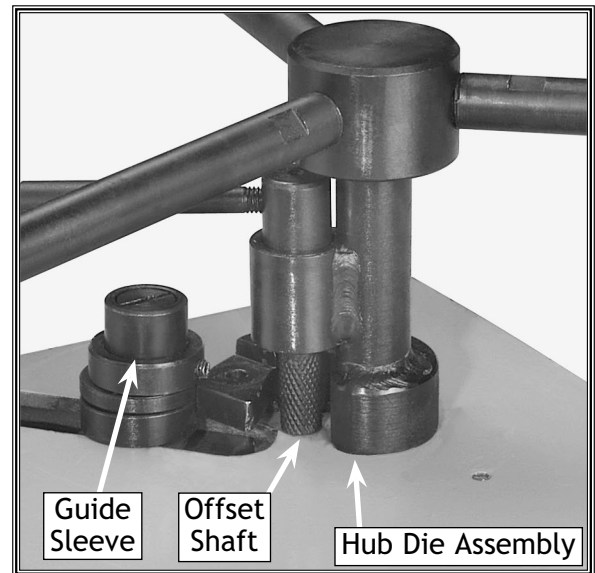

Figure 19. Workpiece placement for scroll the scroll operation.
2. Slide the workpiece between the offset shaft and the hub die assembly (**Figure 19**).
5. Use the hand lever to move the guide sleeve (**Figure 19**).